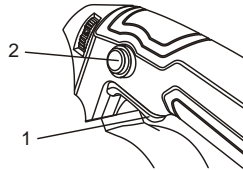

Fig. 3
1. To turn the sander ON, squeeze the trigger switch (1) (Fig. 3).